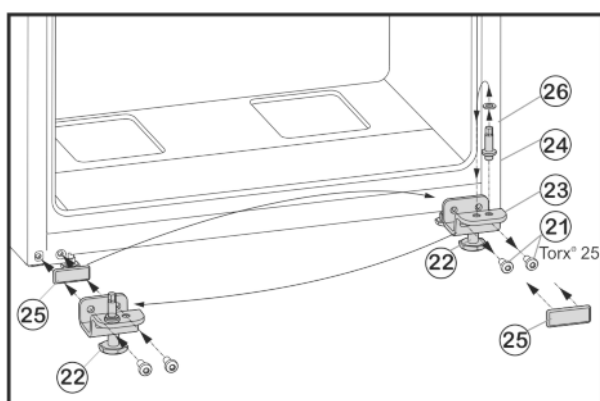

Fig. 8
- Unscrew fastening screws Fig. 8 (21).
- Remove the lower bearing block Fig. 8 (23), complete with bearing bolt Fig. 8 (24), washer Fig. 8 (26) and adjustable foot Fig. 8 (22).
- Unscrew the bearing bolt Fig. 8 (24), complete with washer Fig. 8 (26), re-locate it into the mounting hole on the opposite side of the bearing block and tighten again.
- Carefully remove the cover plate Fig. 8 (25) and re-locate it to the other side.
- Screw on the lower bearing block Fig. 8 (23), complete with bearing bolt Fig. 8 (24), washer Fig. 8 (26) and adjustable foot Fig. 8 (22) to the new hinge side, with the help of a cordless screwdriver if necessary, and **tighten (with 4 Nm)** once again.
- Lower the door from above onto the bearing bolt Fig. 8 (24).
- Unscrew the adjustable foot Fig. 8 (22) on the lower bearing block Fig. 8 (23) until it touches the floor.